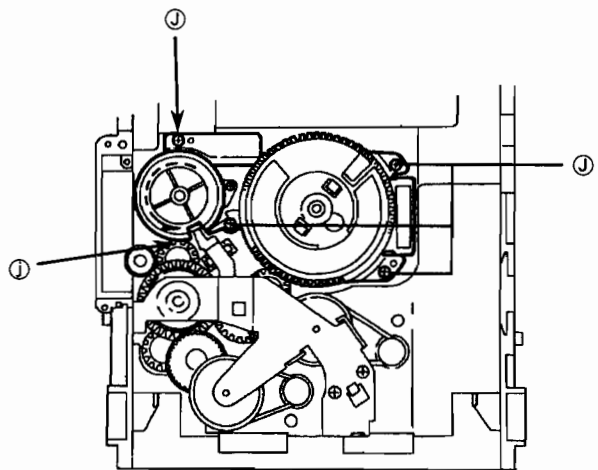

Fig. 43
4. Rotate the Cam gear L so that the select gear's ⑬ is positioned as shown in Fig.43.
5. Remove 4 screws ④ securing the cam unit which includes the cam gear L and Cam R1, R2 ass'y. (See Fig 43.)